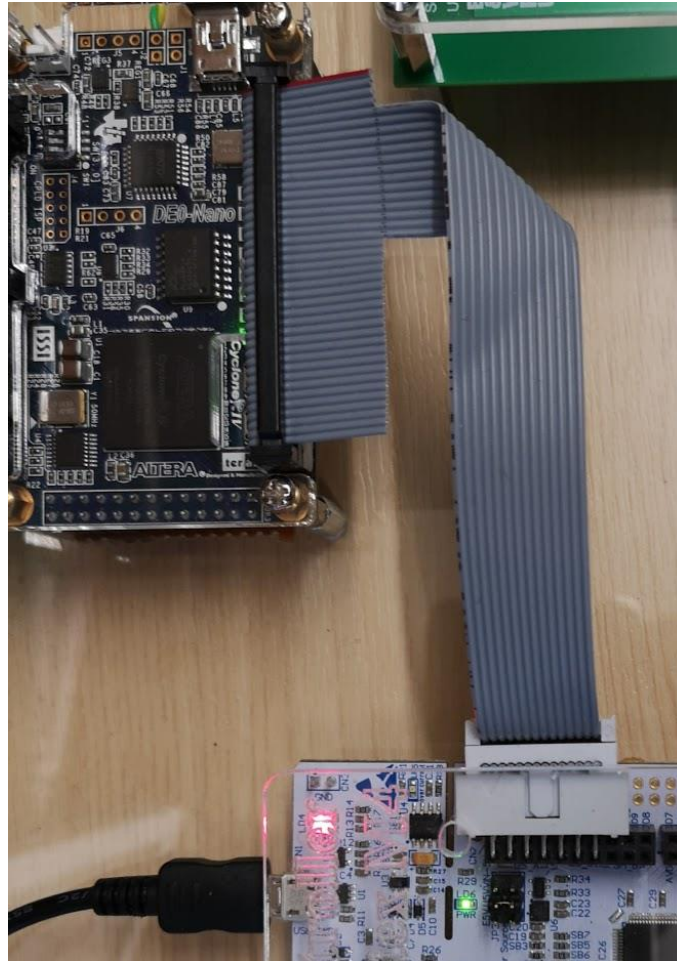

Figure 1. Showing the connections between the FPGA and the Nucleo Board
1. Connect the ribbon cable to the FPGA connector JP1 as shown in Figure 1. If you do not have this cable, please ask the technicians (you may need to construct one yourself).